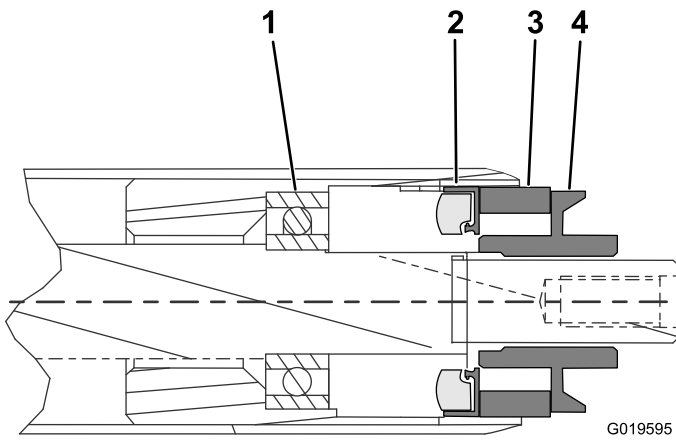

Figure 3
11. Remove the nuts from the end of the roller and insert the 12.7 mm (1/2 inch) spacers (Figure 3).